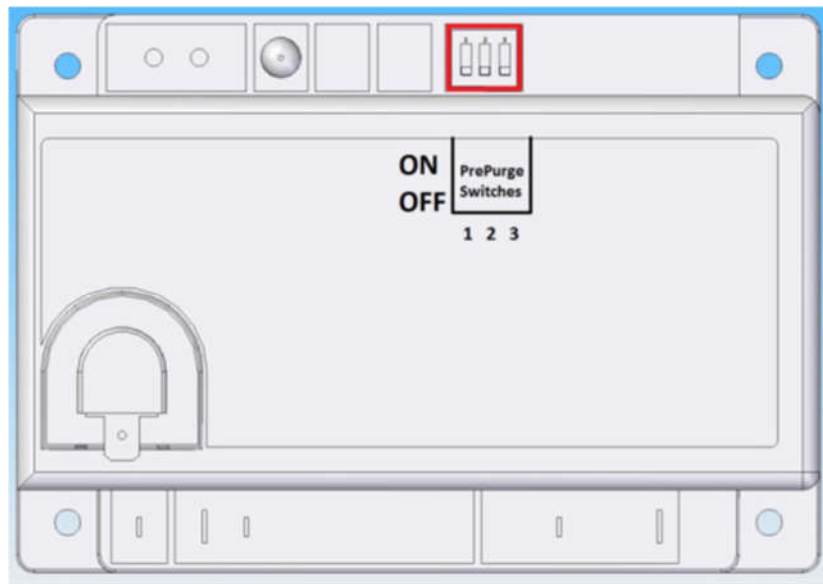

Figure 48: Module Dip Switch Location
NOTE: Each module in each burner has 3 dip switches as seen in Figure 48 below.
3. With a manometer check the vacuum at the End Vent Cap of the longest Branch. (Refer to Figure 48 for manometer positioning details.)
3. Verify end plate vacuum settings against Installation/Operation Manual, to establish correct burner rates with a manometer. Check the vacuum at the End Vent Cap of the longest Branch. (Refer to Figure 48 for manometer positioning details.)